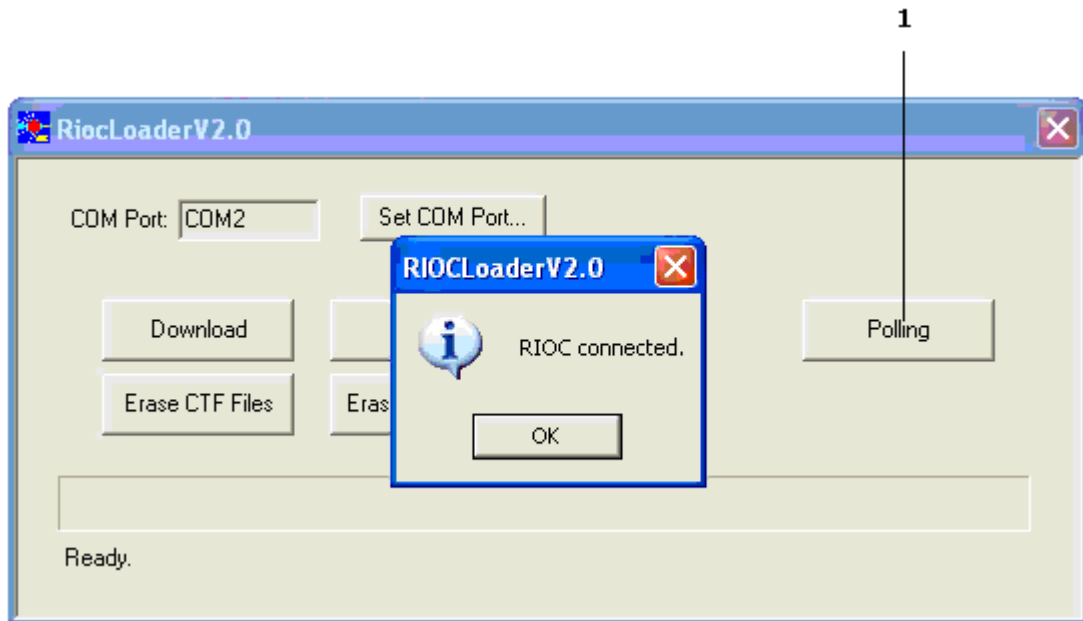

Figure 2
- (7) Open the right avionics-bay servicing-door, F17.
- (8) Open, then close the circuit breaker RIOC 3 (B16) in the avionics bay to set the RIOC 3 off then on again.
- (9) Select the Polling button (Ref. Fig 2, Item 1).
- (10) Make sure that the “RIOC connected” message is shown on the RIOC Loader V2.0 dialog box (Ref. Fig 2), then click OK.